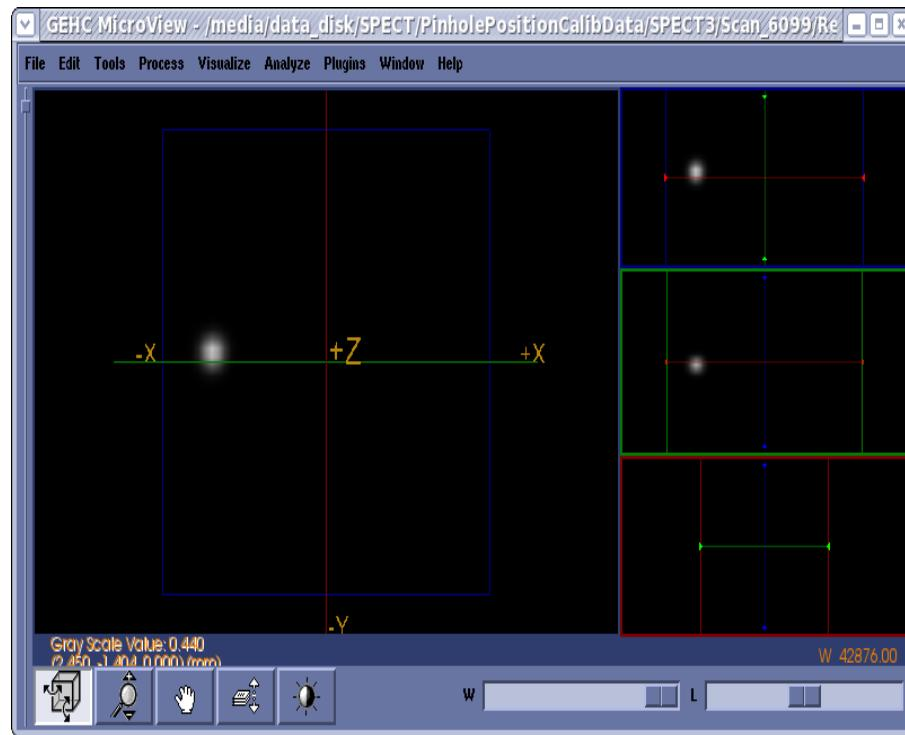

Figure 7-50
- e. You should see a nice image of a point source.(Figure 7-50)